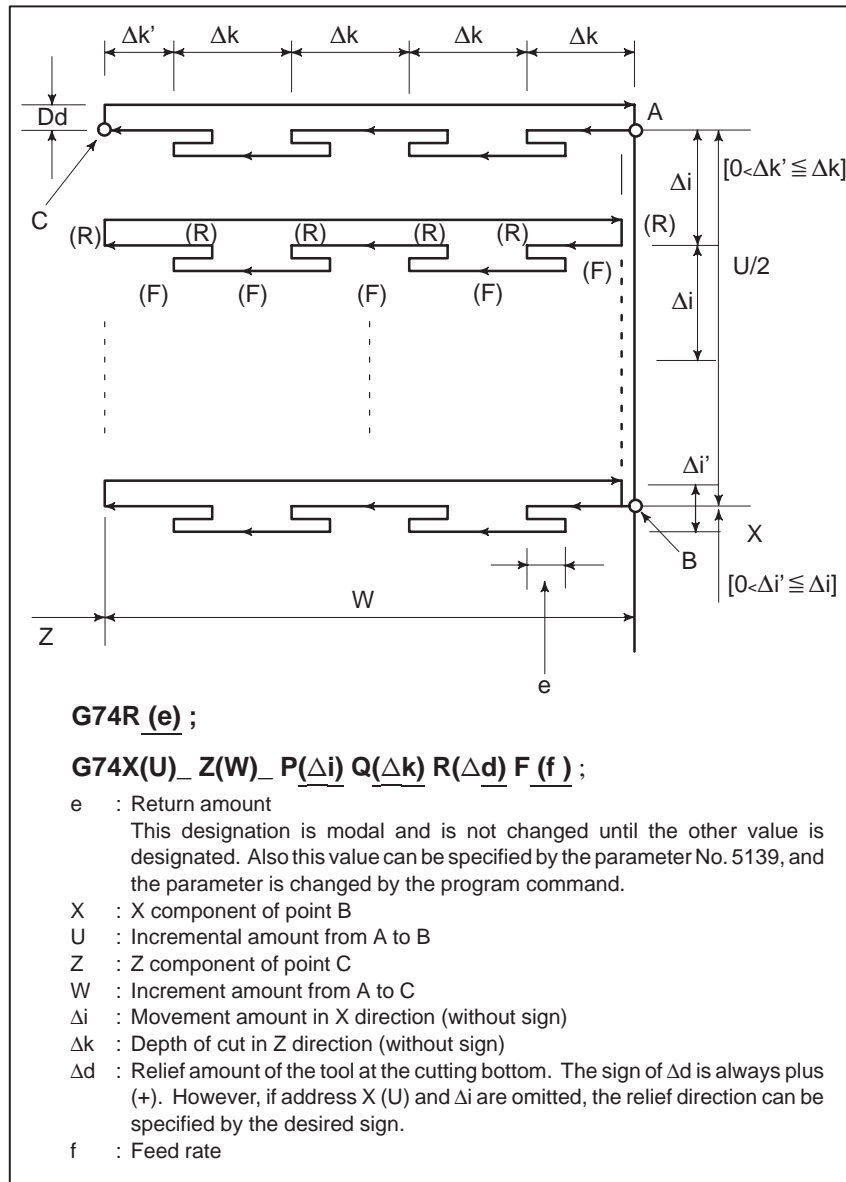

Fig. 13.2.5 Cutting Path in End Face Peck Drilling Cycle
The following program generates the cutting path shown in Fig. 13.2.5. Chip breaking is possible in this cycle as shown below. If X (U) and Pare omitted, operation only in the Z axis results, to be used for drilling.